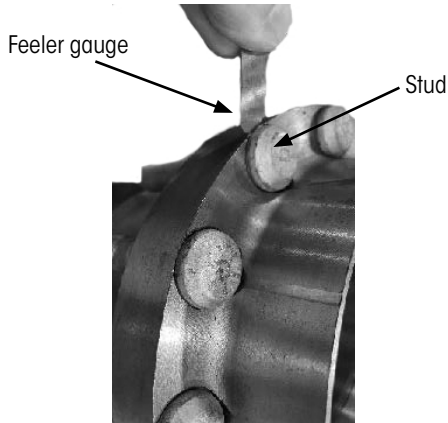

Figure 22: Checking stud installation
6. Check stud installation with a 0.003 inch feeler gauge Figure 22 to make sure the stud is seated.